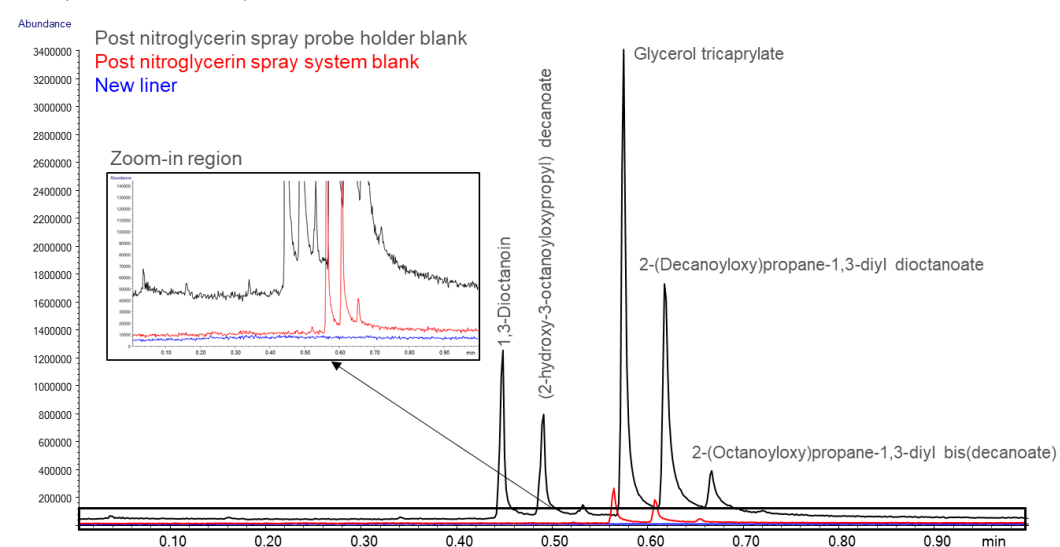

Figure 11. Carryover from nitroglycerin spray in blank chromatograms and clean system blank with new liner; inset: zoom-in of baselines.
- If liner is contaminated, cool system and replace liner (Figure 11).